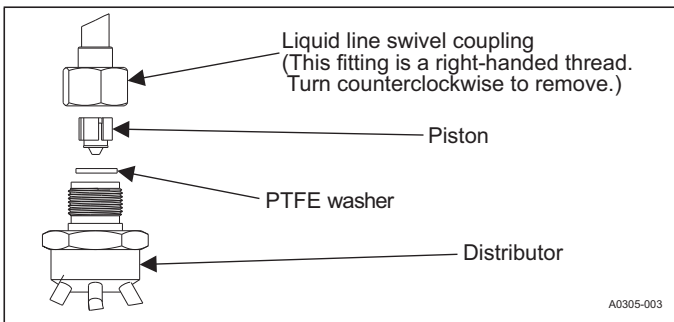

Figure 10: Piston installation
6. Install the required size piston into the distributor. Refer to the *Tabular Data Sheet* for the specific piston size and indoor coil match up. See **Figure 10**.
7. Verify that the PTFE washer is still in place in the distributor opening. See **Figure 10**.